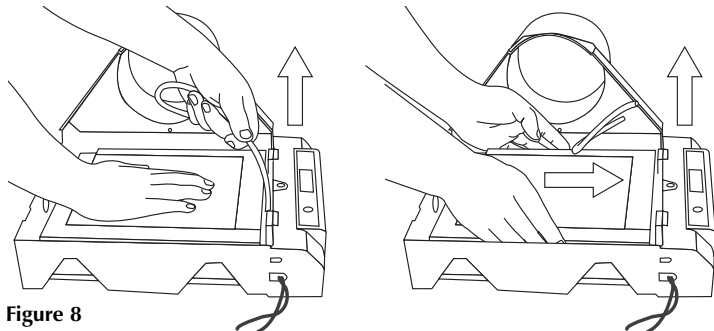

Figure 8
2. Remove all loose components packaged inside and any packaging. With a firm pull, disconnect the water tube from the water nozzle and remove the evaporator pad assembly by sliding it toward the top of the humidifier, then lifting it out. (fig 8.)
and any packaging. With a firm pull, disconnect the water tube from the water nozzle and remove the evaporator pad assembly by sliding it toward the top of the humidifier, then lifting it out. (fig 8.) The humidifier comes with a mounting template. Ensure the cabinet is installed level for proper operation.